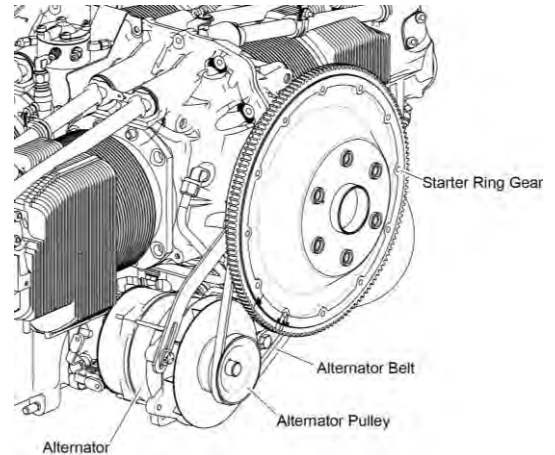

Figure 6
- (4) Rotate the alternator on the bracket towards the starter ring gear.
- (5) Remove the alternator belt from the alternator pulley and the starter ring gear (Figure 6).
- (1) Install the alternator belt in the alternator belt groove on the starter ring gear support.
- (2) Install the alternator belt in the groove on the alternator pulley (Figure 6).
- (3) Adjust the alternator belt tension. Refer to the “Alternator Belt Tension Check/Adjustment” procedure in this chapter.